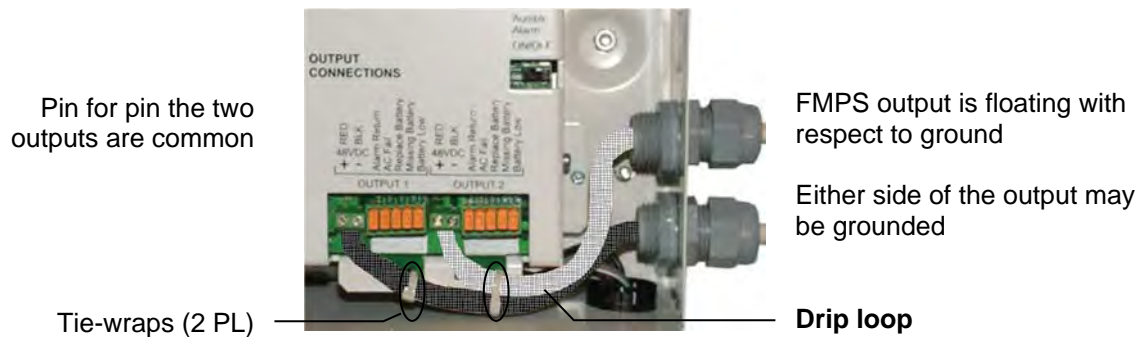

Figure 9–DC output connections
5. Create a drip loop (Figure 9) and use tie-wraps to secure the wiring.